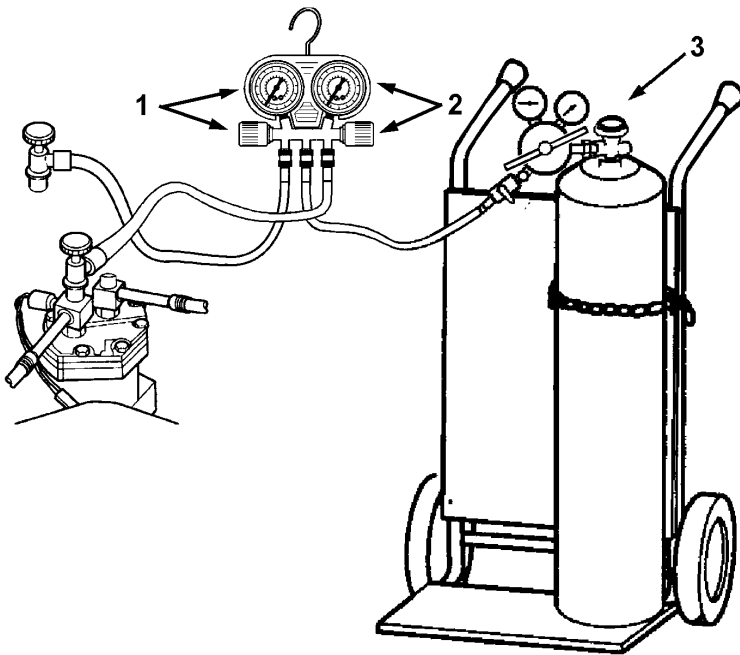

Figure 52 Using Nitrogen to Pressurize the A/C System
1. Connect a manifold gauge set to the a/c system. Refer to FIGURE 52.